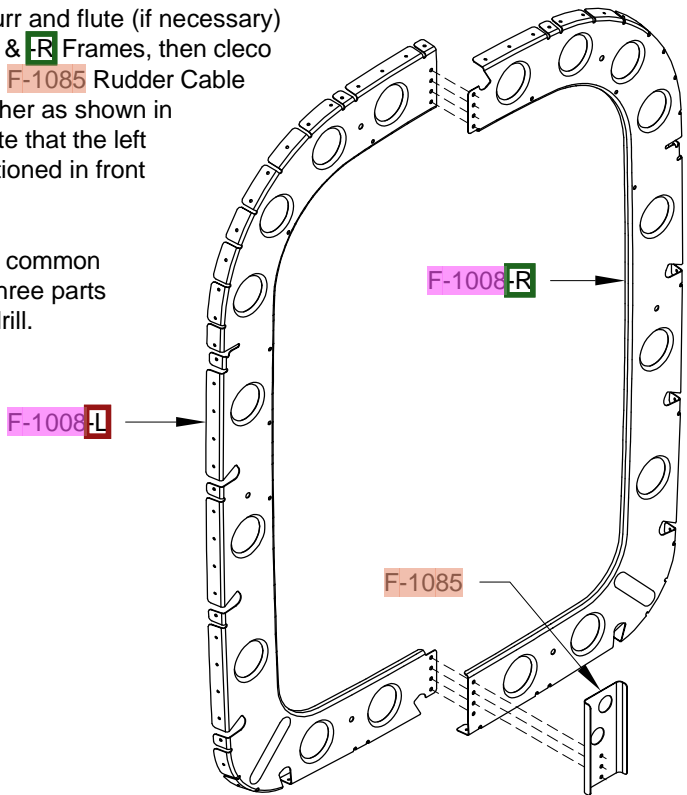

FIGURE 4: ASSEMBLING THE F-1008 FRAME
Step 3: Deburr and flute (if necessary) the F-1008-L & F-1008-R Frames, then cleco them and the F-1085 Rudder Cable Bracket together as shown in Figure 4. Note that the left frame is positioned in front of the right.
Step 4: Deburr and flute the F-1007-L & F-1007-R Frames, then cleco them together as shown in Figure 4. Again, the left frame is positioned in front of the right.
Step 5: Final-Drill the two 3/16" holes, indicated in Figure 4, to 5/8" using a Unibit step drill.